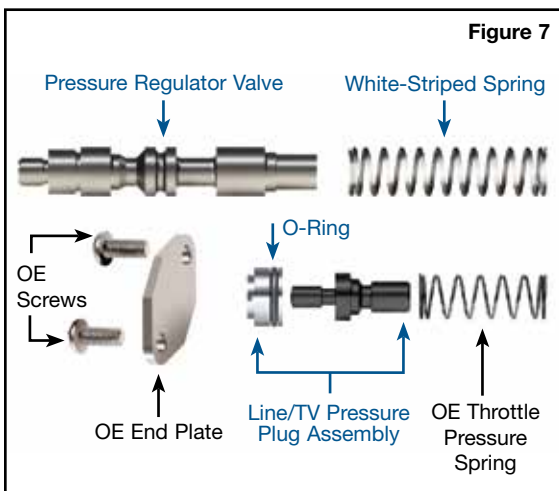

Figure 7
- At the opposite end of the pressure regulator bore, reinstall the OE throttle spring, followed by the Sonnax oversized line/TV pressure plug assembly (Figure 7).